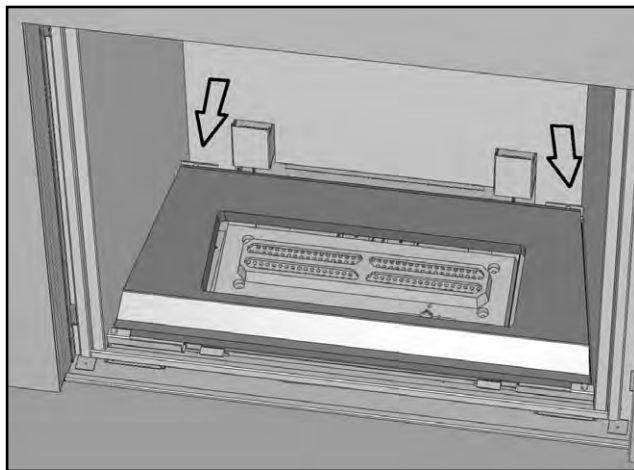

Figure 101 Installing Burner Cover.
10. Place the Ceramic Burner Front on top of the Burner Cover Supports as shown in Figure 101. This part should be pulled forward until it contacts the metal brackets in the front.
The arrows in Figure 101 point at the studs that hold the Burner Cover in position. Place the Burner Cover over the pins and then once aligned with the holes, push the Burner Cover back towards the rear of the firebox. The front of the Burner Cover is held in place by the permanent magnets installed in step 8.